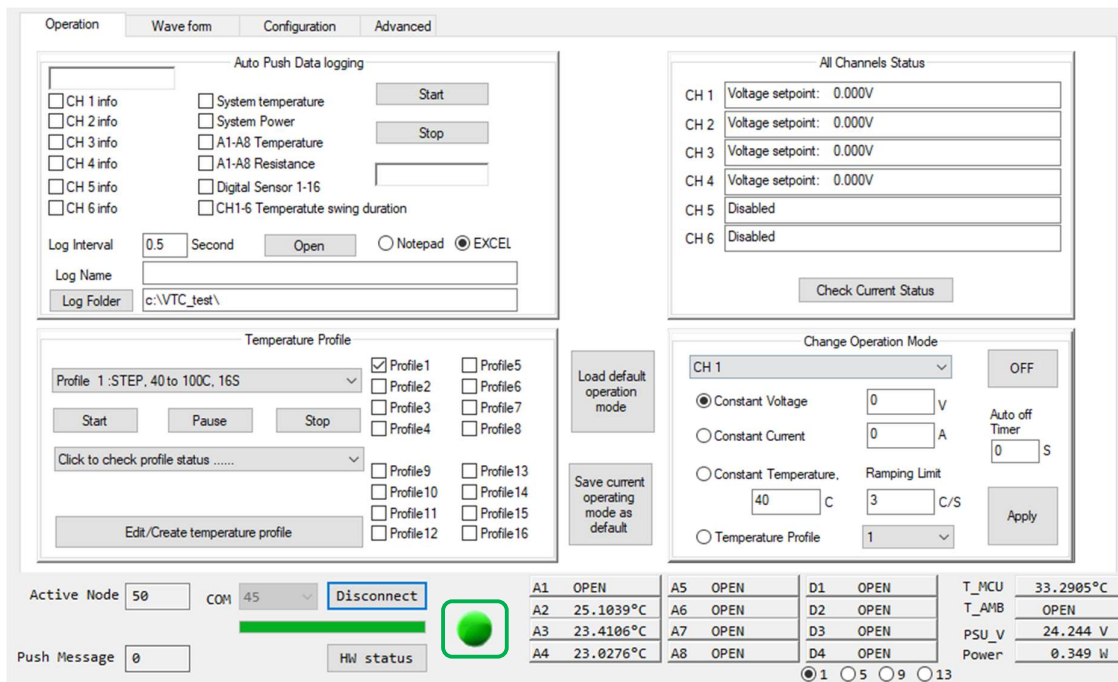

Figure 3.2: Connection Indicator
Step 3) Once a COM port attached to a VTC has been found, the connection indicator will turn **Green**, as shown in Figure 3.2. The connected COM port is also displayed in the COM window.